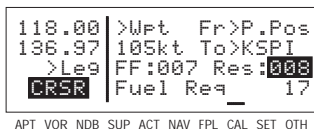

Figure 4-63
- Move the cursor to the fuel reserve requirement field and enter the desired value. As you do, watch the calculation of fuel required on line 4 change (figure 4-63).